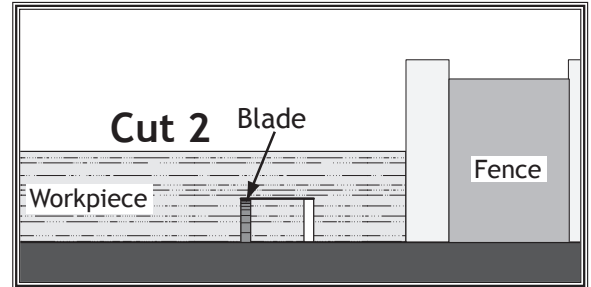

Figure 62. Second cut for a single-blade dado.
7. Repeat cutting operation on other side of dado, as shown in Figure 62.